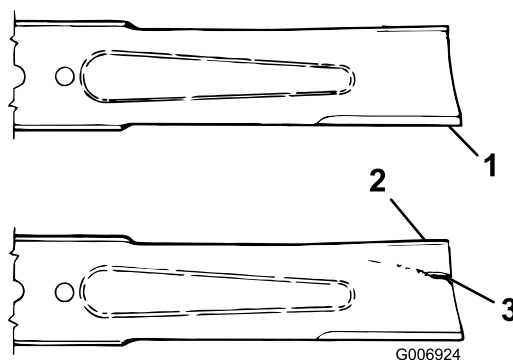

Figure 33
2. Inspect the cutting edges (Figure 33). If the edges are not sharp or have nicks, remove the blades and sharpen them; refer to Sharpening the Blades.
3. Inspect the blades, especially the curved area (Figure 33). If you notice any damage, wear, or a slot forming in this area (Figure 33), immediately install a new blade.